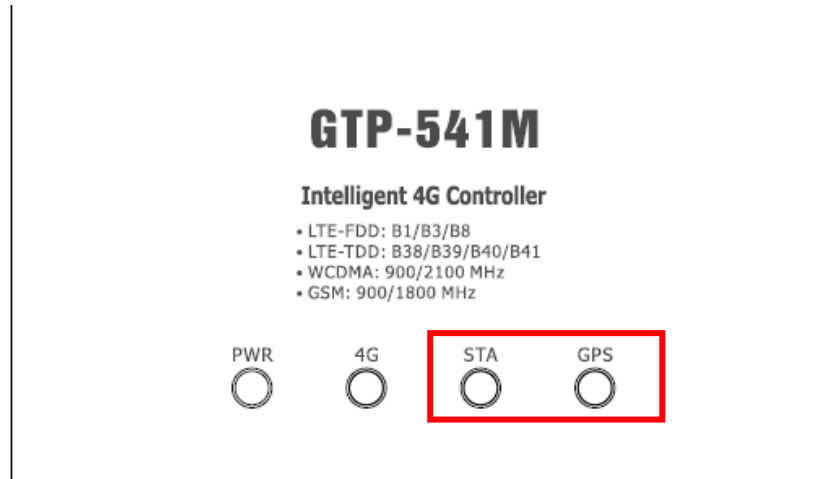

Figure 9.3
- 三、first insert the SD card that has been placed in the Firmware file into the GTP-541M. After the power is successfully updated, the STA light and the GPS light will flash at the same time every 0.1 seconds for 10 seconds. If the update fails, the update will be The flashing speed is continued for 10 seconds every 0.9 seconds, then the GTP-541M will automatically restart. At this time, the internal file of the SD card will become the internal firmware file and config.ini file of the GTP-541M and the auxiliary file name will be changed to .bak. Figure 9.3